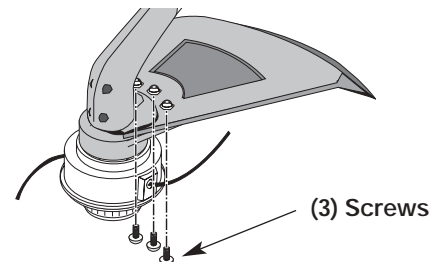

Fig. 5
3. Install a screw into the hole from the bottom of the cutting attachment shield. Screw it into the nut installed in Step 2 until started (Fig 5). Do not tighten.